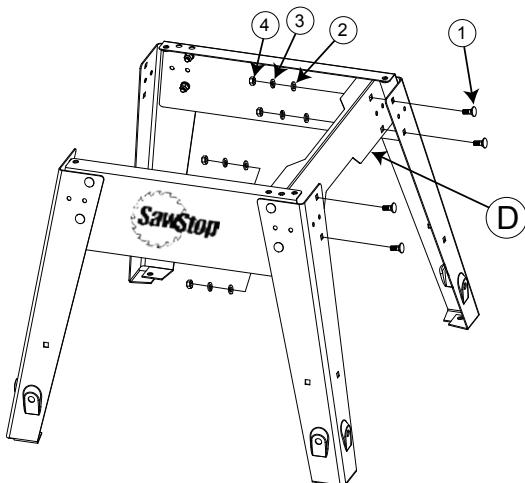

Fig. 4
- Attach one of the side panels marked D between the front and rear portions of the stand (see Fig. 4). Make sure the legs are in front of the side panel and that the side panel is under the top flanges of the front and rear panels. Bumps on the legs fit into holes in the side panel to align the legs. Use four M8 x 20 carriage bolts, four M8 washers, four M8 lock washers, and four M8 hex nuts to attach the side panel to the front and rear portions. Do not fully tighten the nuts.